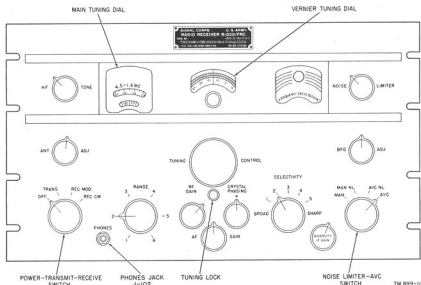

Figure 10. Radio Receiver R-320/FRC, front panel.
e. HEADPHONE CONNECTIONS. A two-position jack is provided on the left side of the front panel (fig. 10) for connection to a pair of headphones. The first position (halfway in) is for reception on both speaker and phones. The second position (full in) is for phone reception only. Connect the phones accordingly.
13. Controls and Their Use (fig. 10)
b. **STARTING.** Set the power-transmit-receive switch (fig. 10) to the TRANS position and allow the filaments to warm up.
a. **C-W RECEPTION.** If the receiver is to be used for c-w reception, refer to figure 10 for control locations and proceed as follows:
- (1) Move the power-transmit-receive switch to the REC CW position.
- (2) Set the ANT ADJ control for maximum background noise.
- (3) Set the SELECTIVITY switch at position 3, 4, or 5 depending on the degree of selectivity required. (See par. 13 for switch function.)
- (4) Set the noise limiter—avc switch to the MAN NL position if noise interference is present, or set the switch to the MAN position if no noise is present.
- (5) Adjust the RF GAIN control to the fully clockwise position.
- (6) Adjust the AF GAIN control to its half-way position.
- (7) Readjust the TUNING CONTROL to the required station.
- (8) Readjust the RF GAIN and AF GAIN controls to the desired volume level, keeping the RF GAIN as low as possible.
- (9) When necessary, adjust the NOISE LIMITER control to a position which provides maximum signal clarity and the least noise.
- (10) Reset the SELECTIVITY and noise limiter-avc switches in accordance with requirements of noise interference and adjacent signal interference.
- (11) Rotate the CRYSTAL PHASING control, if necessary, to reject an interfering signal on a frequency near that of the desired signal. Readjust the TUNING CONTROL if the CRYSTAL PHASING control is moved.
- (12) Set the BFO ADJ control to obtain the desired audio tone.
- (13) If the receiver is subject to vibration, tighten the tuning lock.
b. **MODULATED RECEPTION.** If modulated reception is desired after the starting procedure has been completed, refer to figure 10 for control locations and proceed as follows:
- (1) Set the power-transmit-receive switch to REC MOD.
- (2) Turn the ANT ADJ control for maximum background noise.
- (3) Set the SELECTIVITY switch at position 1, 2, or 3, depending on the degree of fidelity and selectivity required. (See par. 13 for switch function.)
- (4) Set the noise limiter-avc switch to the AVC NL position if noise interference is present, or set the switch to the AVC position if noise interference is not present.
- (5) Turn the RF GAIN control to its fully clockwise position.
- (6) Adjust the AF GAIN control to a suitable output level.
- (8) Reset the AF GAIN control to obtain the desired volume level.
To stop the receiver, rotate the power-transmit-receive switch (fig. 10) to the OFF position.